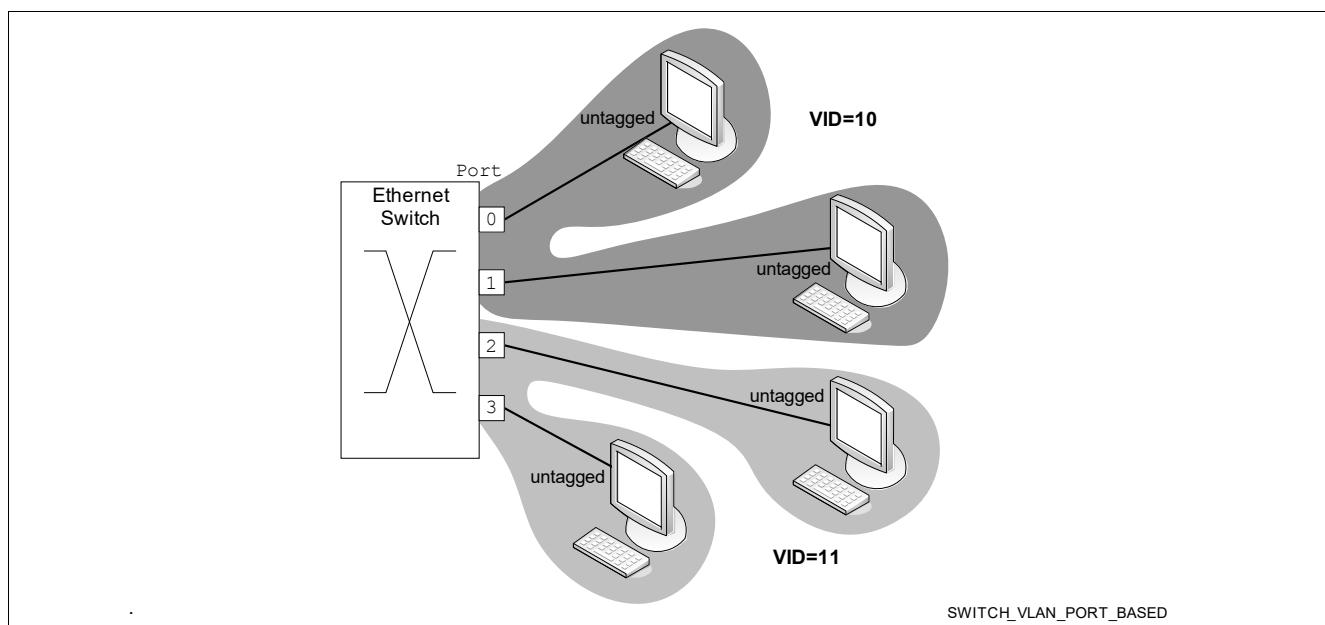

Figure 31 Port-based VLAN Example
**Figure 31** shows an example where four LAN stations are connected to a single 4-port switch device. Two VLAN groups are set up with two port members for each group. The active VLAN set contains two groups: port 0 and port 1 are members of VID = 10, port 2 and port 3 are members of VID = 11. Ethernet frames are exchanged between port 0 and port 1 as well as between port 2 and port 3, but not between port 0/1 and port 2/3.